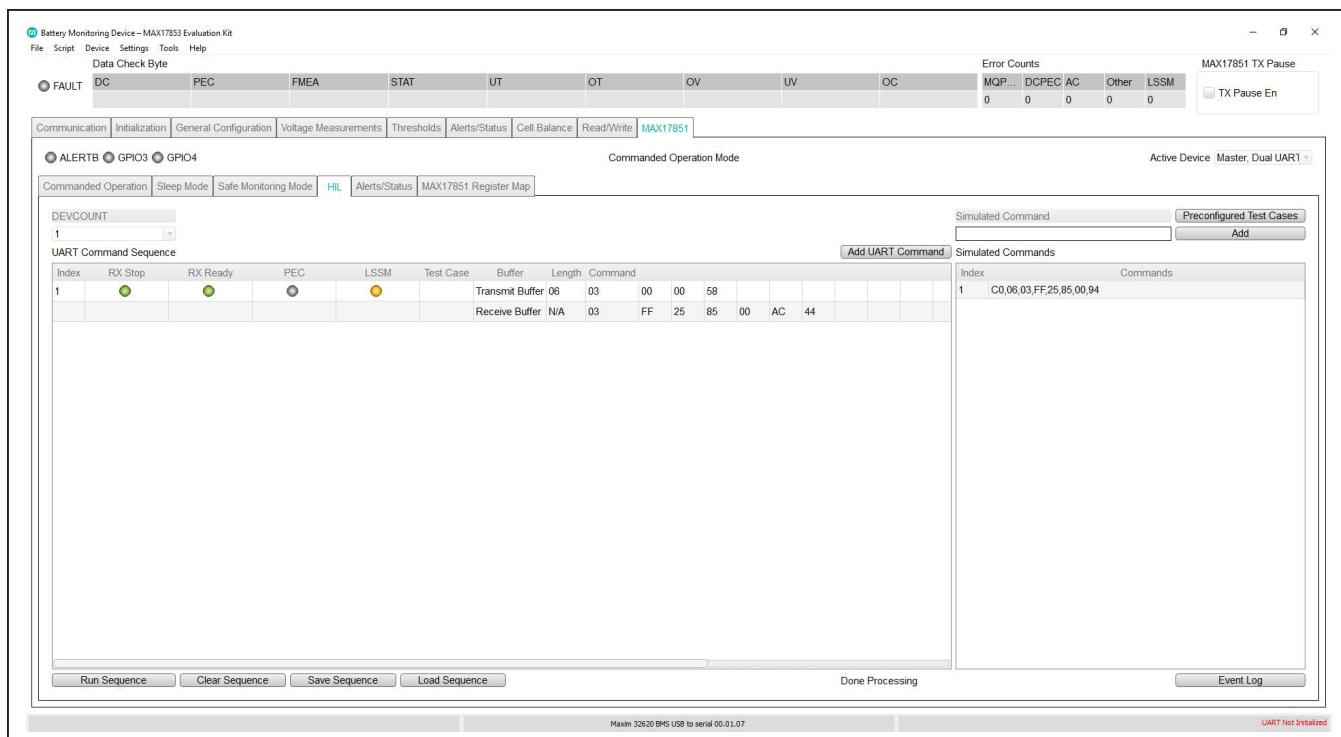

Figure 19. HIL run sequence
- 5) Select the **HIL** tab (Figure 19) and set the **DEV-COUNT** drop-down list to **1**. This is the number of simulated devices.
- 6) Click on the **Add UART Command** button and observe the **UART Command Sequence** be populated with an empty sequence. Populate the fields next to **Transmit Buffer** as Figure 19. The UART command **06,03,00,00,58** will be loaded to the Master once the sequence begins.
- 5) Select the **HIL** tab (Figure 19) and set the **DEV-COUNT** drop-down list to 1. This is the number of simulated devices.